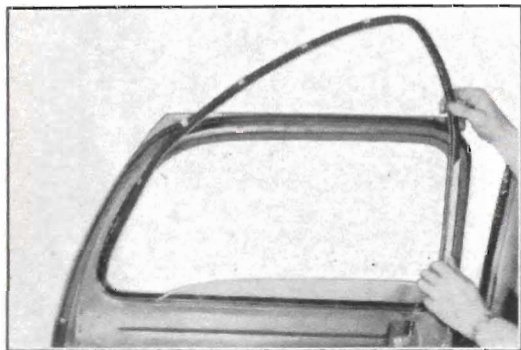

Fig. 1-56. Glass Run Channel Removal
- 4. Pull up the channel carefully to disengage retaining clip at belt and remove from door. See Fig. 1-56.